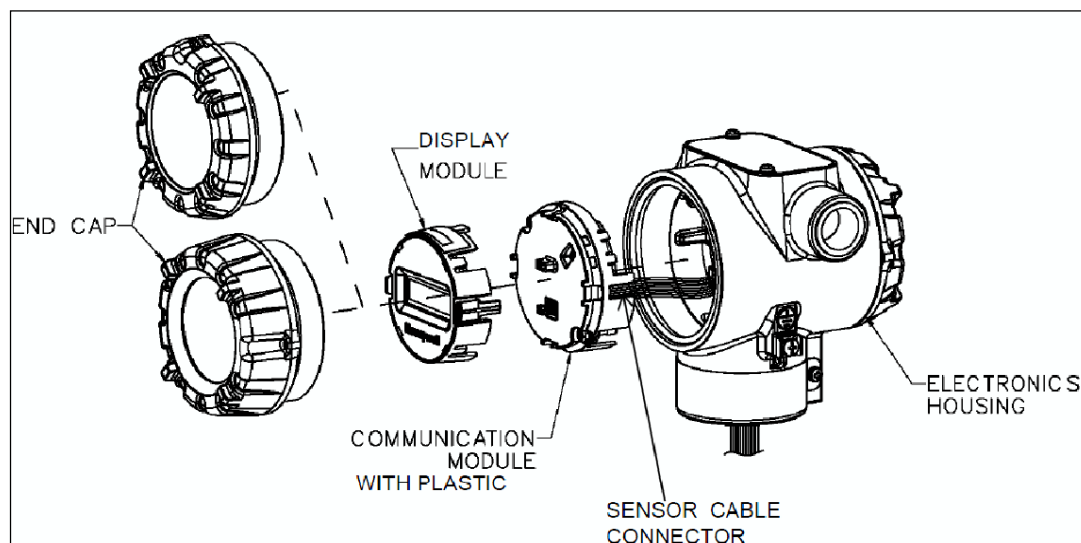

Figure 23 – Disassembly for Meter Body Replacement
4. Refer to Figure 23. Loosen the End Cap Lock, and unscrew the End Cap from the electronics side of the Transmitter housing.